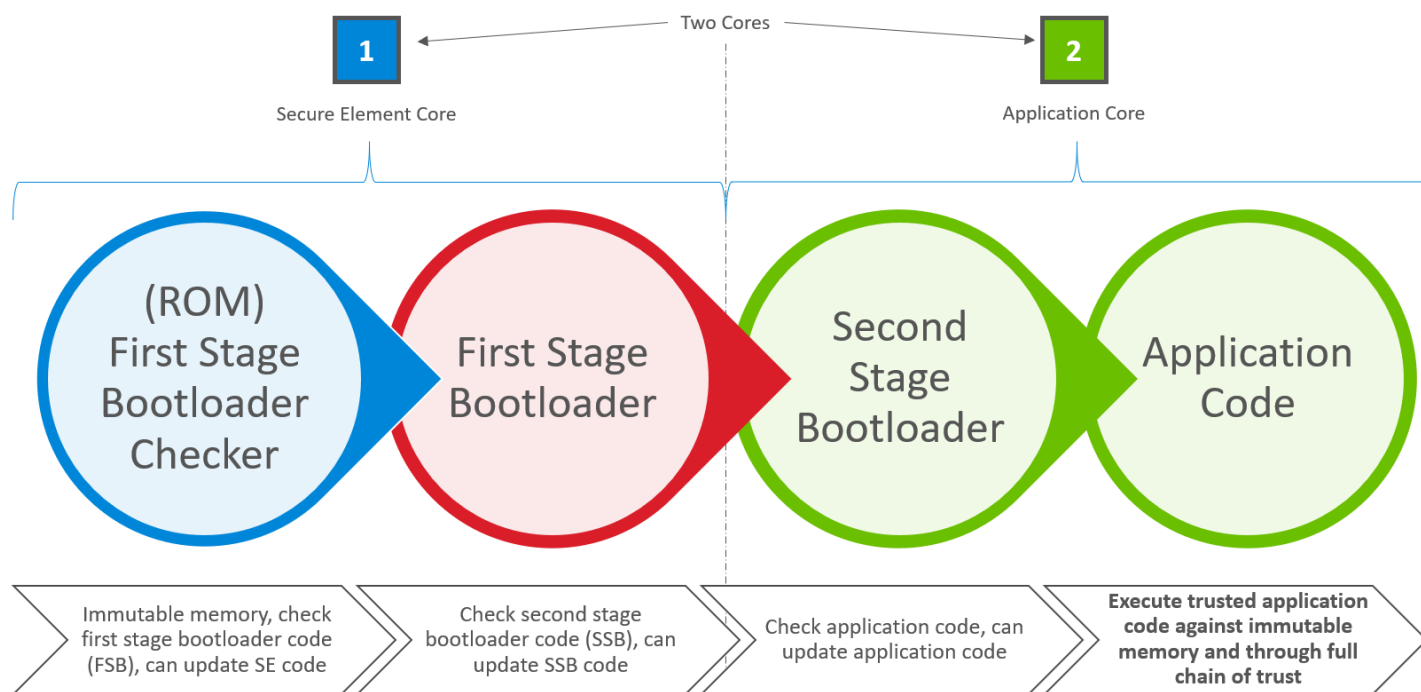

Figure 1.2. Series 2 SE Secure Boot (ECDSA) Process
In Series 2 devices with Secure Element (SE) Core, the Secure Boot process originates in ROM contained in the SE security co-processor. Figure 1.2 Series 2 SE Secure Boot (ECDSA) Process on page 4 and Figure 1.3 Series 2 SE Secure Boot (ECDSA) Flow on page 4 illustrate the Secure Boot process and flow on Series 2 SE devices.